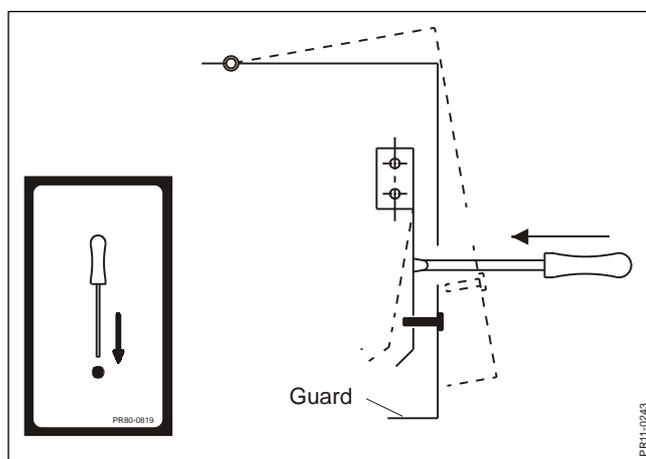

Fig. 7-1
**Fig. 7-1** When maintaining the machine you often need to open or remove guards. For safety reasons all guards have been equipped with a lock. The lock ensures that the guard cannot be opened without tools. There are two different types of lock. The figure shows the locking principle and the corresponding transfer which indicates and illustrates the locks on the machine.